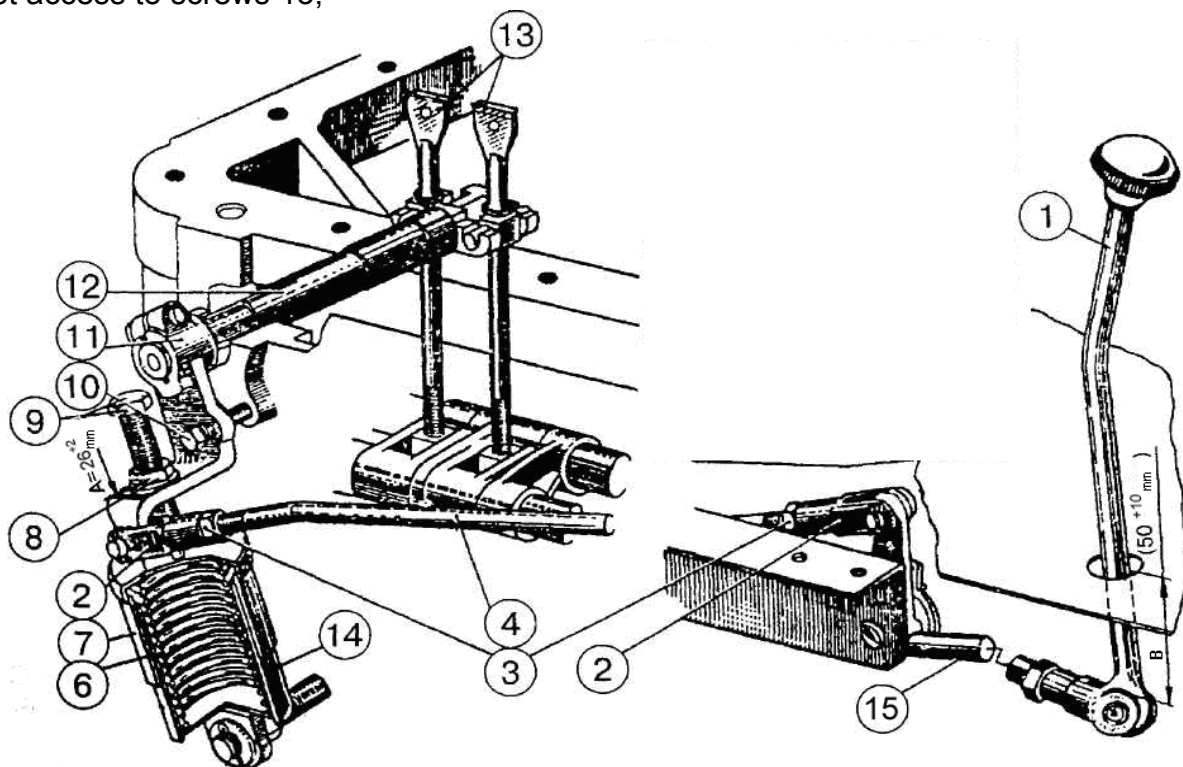
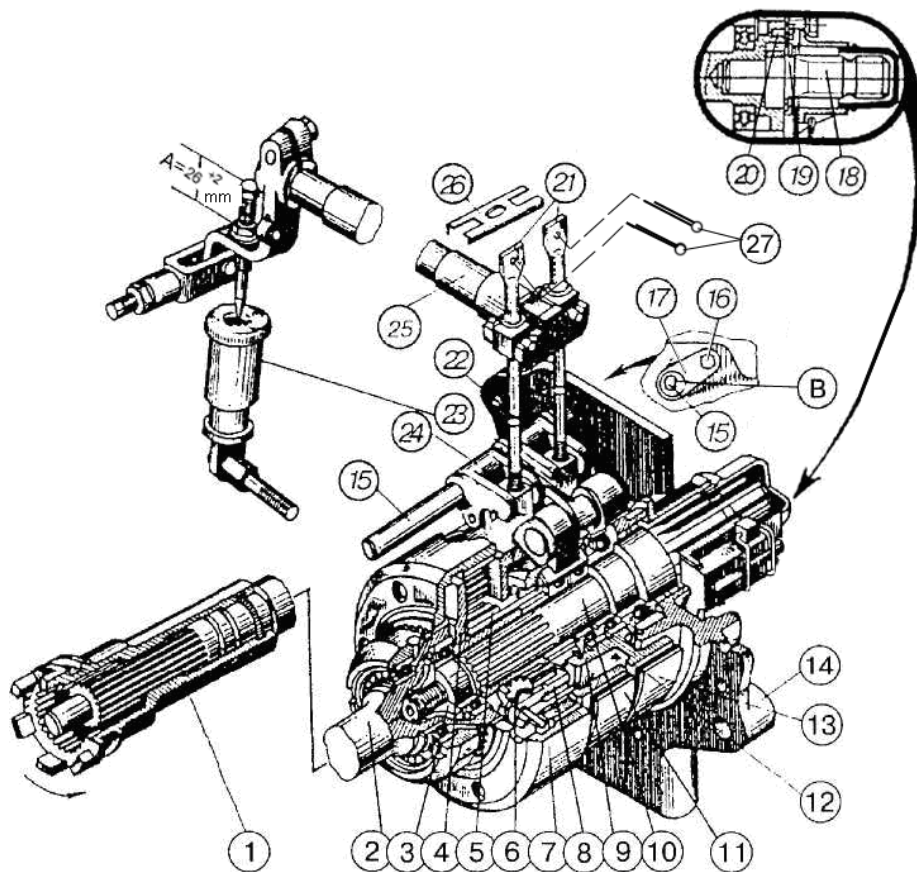

Figure 1. Rear PTO control:
Figure 2. Rear PTO planetary reduction gear:
1. Put eccentric axle 15 to initial position, so that flat "C" (fig. 2) is to the right vertically, and fix it with stop plate (17) and bolt (16);
2. Disconnect tie-rod 4 (fig. 1);
6. Remove stop plate 26 (fig. 2), screw up in turn adjusting screws 21 with torque from 8 to 10 N•m, then unscrew each screw by 2 turns and it is necessary screw the screws so that screw heads are placed parallel to direct axis of the tractor;
10. Mount tie-rod 4 (figure 1); changing the length of tie-rods 4 and 15 set rolling zone of lever 1 in the middle section of the control panel groove, and adjust the size B (50^{+10} mm).
Upon adjustment completion install to adjusting screws 21 the stop plate 26 and coppers 27 (figure 2), cover of rear axle hatch, cotter pin tie-rods 4 and 15 (figure 1), and bolt 9 by nuts 3 and 8.
After several external adjustments eccentric axle 15 (figure 2) can adopt extreme left position (the flat "C" will be on the left in vertical position), it means that external adjustment margin is exhausted. In this case turning eccentric axle anti clockwise, put it into initial position (vertical flat on the right), after that perform adjusting operations, as described above (during assembly at the manufacturer or after PTO repair).
When adjustment is made correctly, lever 1 (figure 1) in position "on" or "off" shouldn't reach control panel groove edge by at least 30 mm, and accurately pass through neutral position.
In some lots of tractors is possible the absence of external readjustment mechanism of control of PTO (position 15,16,17 figure 2). In this case do adjustment as shown above for adjustment of the control of PTO after repair or during assembly at the manufacturer. Tractors with small cab have the dimension "B" 50-60 mm. Efficiency of PTO brakes, absence of slippage depend only on spring mechanism, primarily on availability of free operation zones, and relative levers. PTO slippage means that spring mechanism or levers face additional hindrance when shifted, due to absence of lubrication in joints, increased staining, abutting (touch) against adjacent tractor parts, etc.